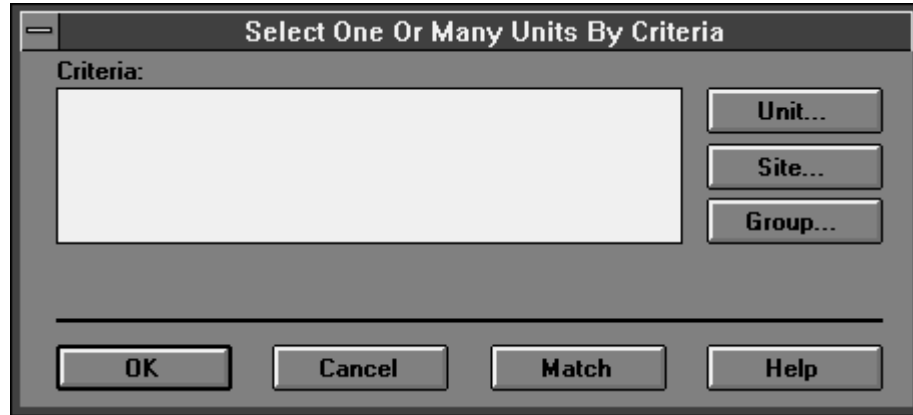

Figure 2-2. Select Units By Criteria
2. Select PremNet SNMP Control. The “Select One Or Many Units By Criteria” dialog box appears. Refer to Figure 2-2.